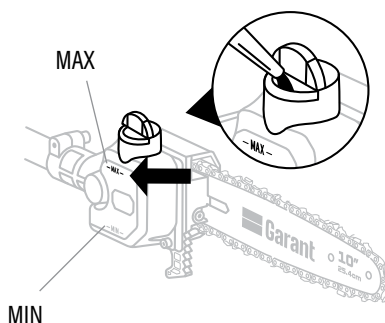

Fig. 5B
3. Fill the oil tank with chain oil. The oil level should be above the "MIN" limit and below the "MAX" limit (Fig. 5B).